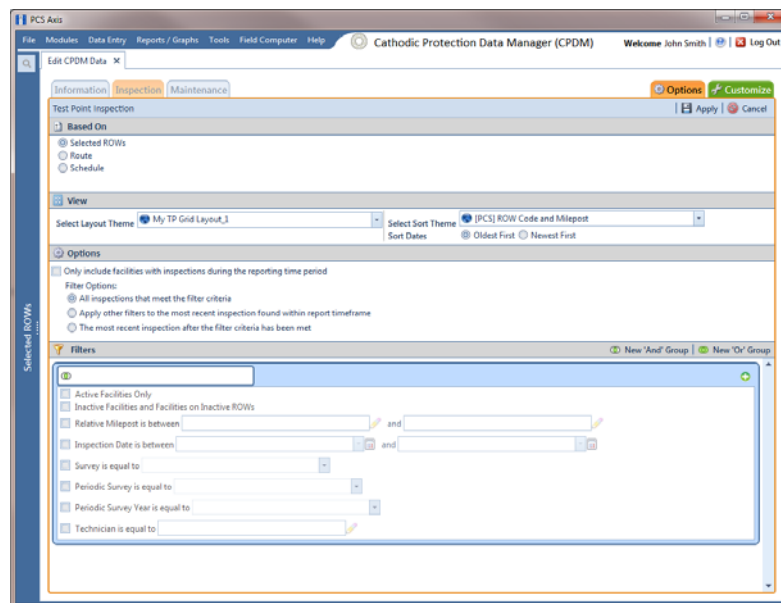

Figure 7-29. Options
- 7 Click  **Save**, then click the **Options** tab  **Options** to open the options page (Figure 7-29, page 312).